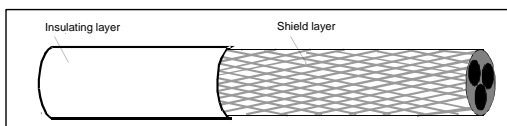

Figure D-1 Cable cross section
To effectively restrict the emission and conduction of radio frequency (RF) interference, the conductivity of the shielded cable must be at least 1/10 of the conductivity of the phase conductor. This requirement can be well met by a copper or aluminum shield layer. Figure D-1 shows the min. requirement on motor cables of VFD. The cable must consist of a layer of spiral-shaped copper strips. The denser the shield layer is, the more effectively the electromagnetic interference is restricted.